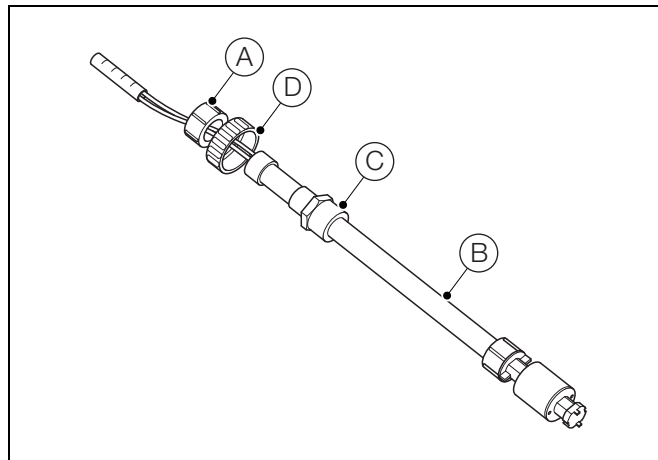

Fig. 3.11 Reagent / Calibration Solution Level Sensor
2. Referring to Fig. 3.11, hold the reagent level sensor by clamp ring (A) and:
- a. Using a dry, lint-free cloth, remove any foreign matter from level sensor stem (B).
- d. Check that the end of the level sensor is in close proximity to the bottom of the reagent container. If required, unscrew clamp ring (A), adjust nut (C) to position the sensor correctly, then secure with clamp ring (A).
- e. Secure the reagent level sensor to the reagent container with cap (D).